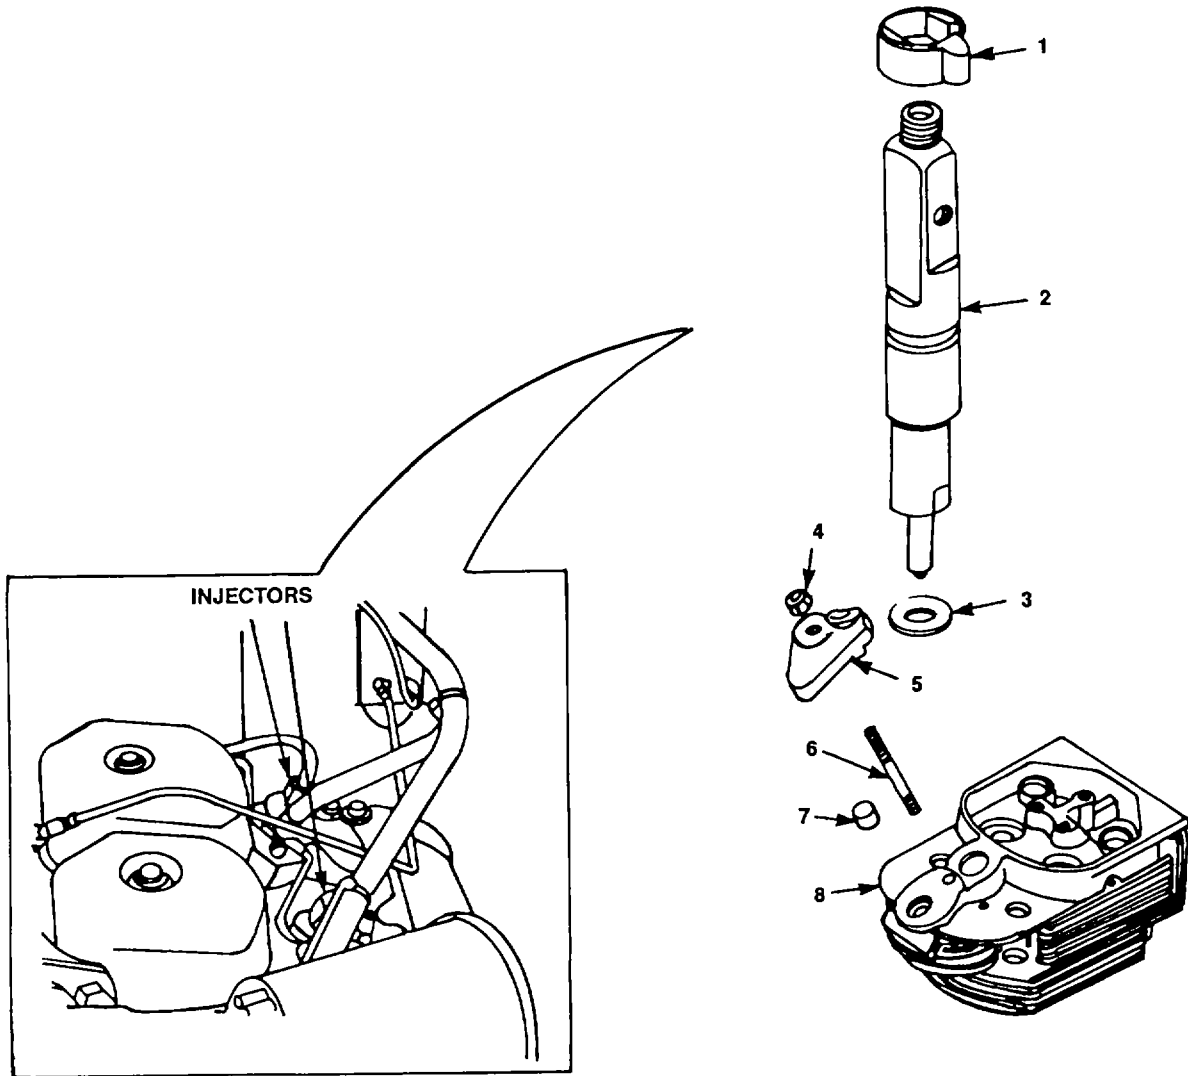

Figure 4-44. Injector Components
- b. Remove nut (4) that secures clamping bridge (5) to cylinder (figure 4-44).
- d. Remove injector (2) with bushing (1). Replace, as required. Ensure sealing washer (3) is removed.
- e. Check thrust piece (7). Replace, as required.
- f. Install thrust piece (7).
- g. Install sealing washer (3) on injector (2). Replace injector.
- h. Reinstall bushing (1) that secures fuel injector (2) to cylinder.
- i. Replace clamping bridge (5) and secure with nut (4).